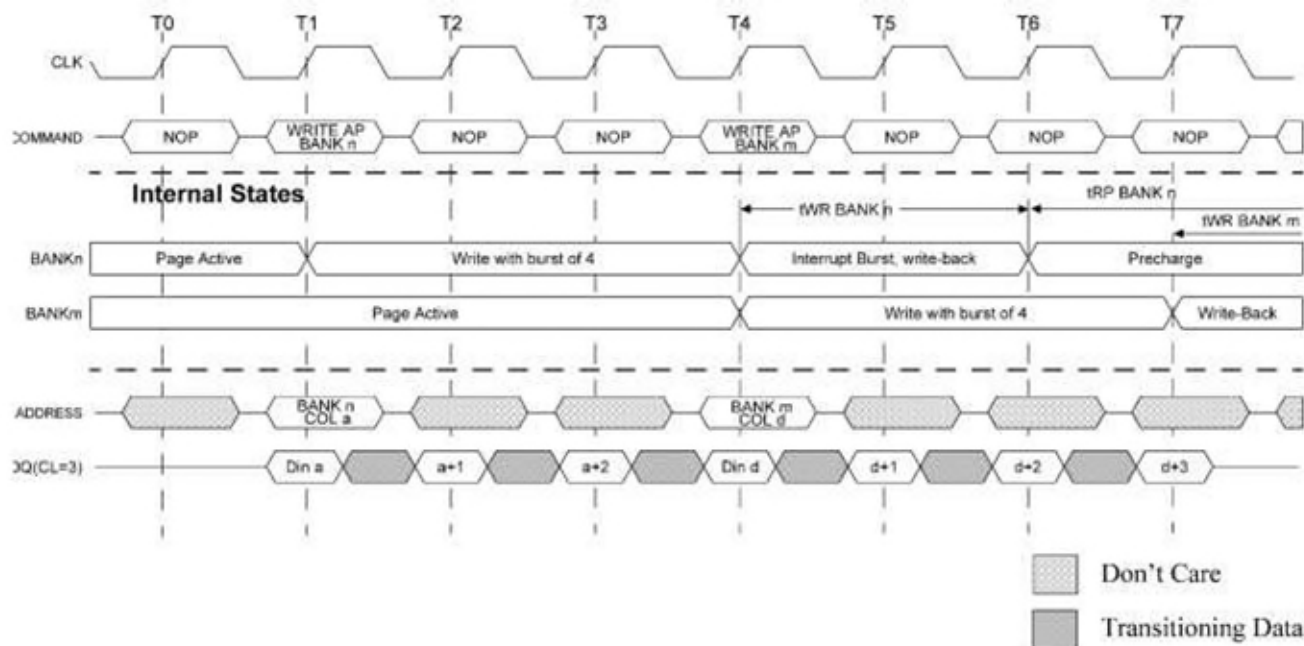

Figure 30: WRITE with Auto Precharge Interrupted by a WRITE
Interrupted by a WRITE (with or without auto precharge): A WRITE to bank m interrupts a WRITE on bank n when registered. The PRECHARGE to bank n begins after tWR is met, where tWR begins when the WRITE to bank m is registered. The last valid data WRITE to bank n will be data registered one clock prior to a WRITE to bank m (see Figure 30).
17. For a WRITE with auto precharge interrupted by a WRITE (with or without auto precharge), the WRITE to bank *m* interrupts the WRITE on bank *n* when registered. The PRECHARGE to bank *n* begins after tWR is met, where tWR begins when the WRITE to bank *m* is registered. The last valid WRITE to bank *n* will be data registered one clock prior to the WRITE to bank *m* (Figure30).